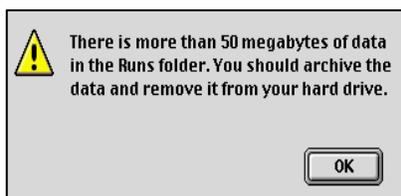

Figure 4. 50 MB Error Message
- c. If you have more than 50 MB of data stored in the folder, the following error message appears when the software is launched (Figure 4). If this message is displayed, move the run files to another location.